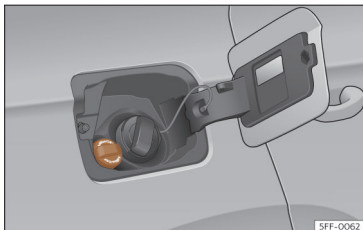

Fig. 194 AdBlue tank cap®.
- Open the tank cover >>> Fig. 194.
- Turn the SCR tank cap anti-clockwise >>> Fig. 194.